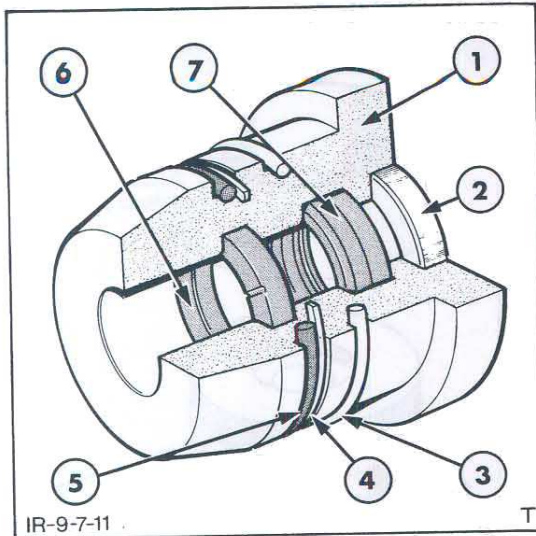

Figure 43
7. Remove the 'O' ring and back-up washer from the outer diameter of the gland and prise out the buffer seal gland seal and wiper seal, Figure 43.